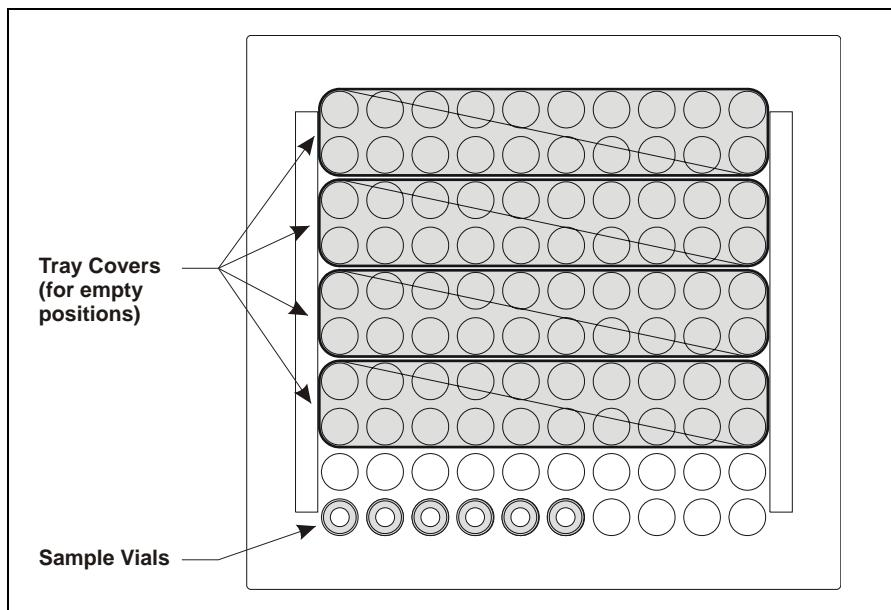

*Figure 3-1. Maximum Level to Fill Vials*
1. Fill the vials to the vial shoulder or lower (see Figure 3-1). **Do not fill to the top.**